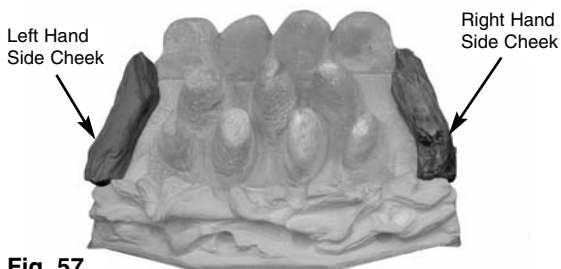

Fig. 57
4. Place the side cheeks into position, making sure they are positioned either side of the fuel bed and the overhang is at the front. The outside edge should be in contact with the radiant box ceramic liner. Ensure that the lower part of the side cheeks sit on the front coal and are in front of the rear coal (Fig. 57).